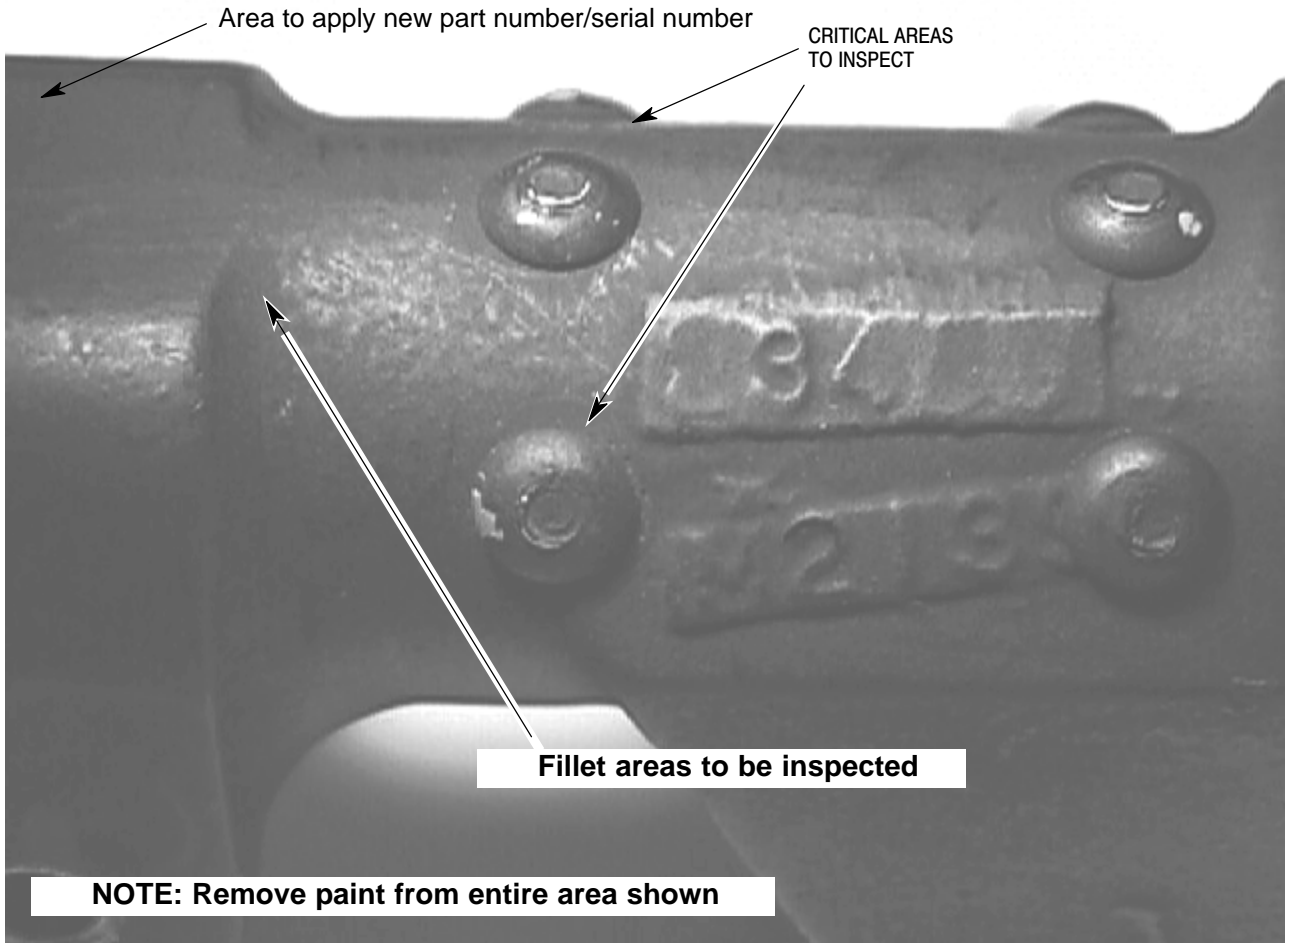

Figure 1. Cyclic Control Stick Inspection (Pilot)
Refer to Figures 1 and 2.
- (1). As necessary remove cover to gain access to the bottom area of the cyclic control stick assembly.
- (2). Using a bright light and a 10X magnifying glass, inspect the rivet area for cracks extending radially from the rivets and along the fillet surfaces (or quick disconnect pin holes on co-pilot's stick), as shown in Figures 1 and 2. No cracks are allowed.